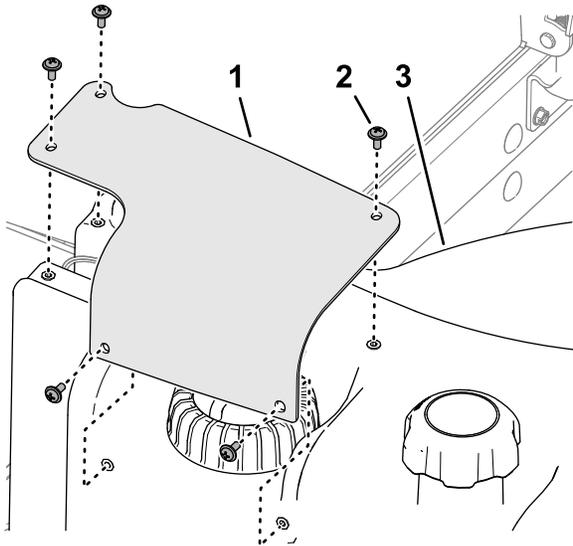

Figure 91
2. Remove the 5 Phillips-head screws that secure the fuel-sender cover to the fuel tank, and remove the cover (Figure 91).